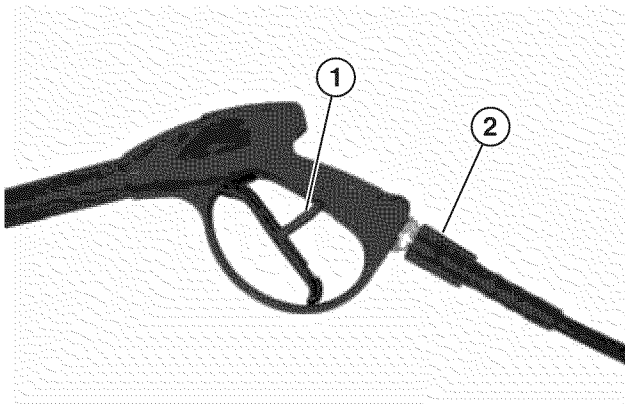

Figure 26 – Trigger Lock in OFF Position
14. Flip the trigger lock up to lock the trigger in the **OFF** position (see Figure 26).
15. Install the high-pressure hose to the spray gun and tighten the hose fitting (see Figure 26). Do not overtighten. The fitting only needs to be hand-tight.